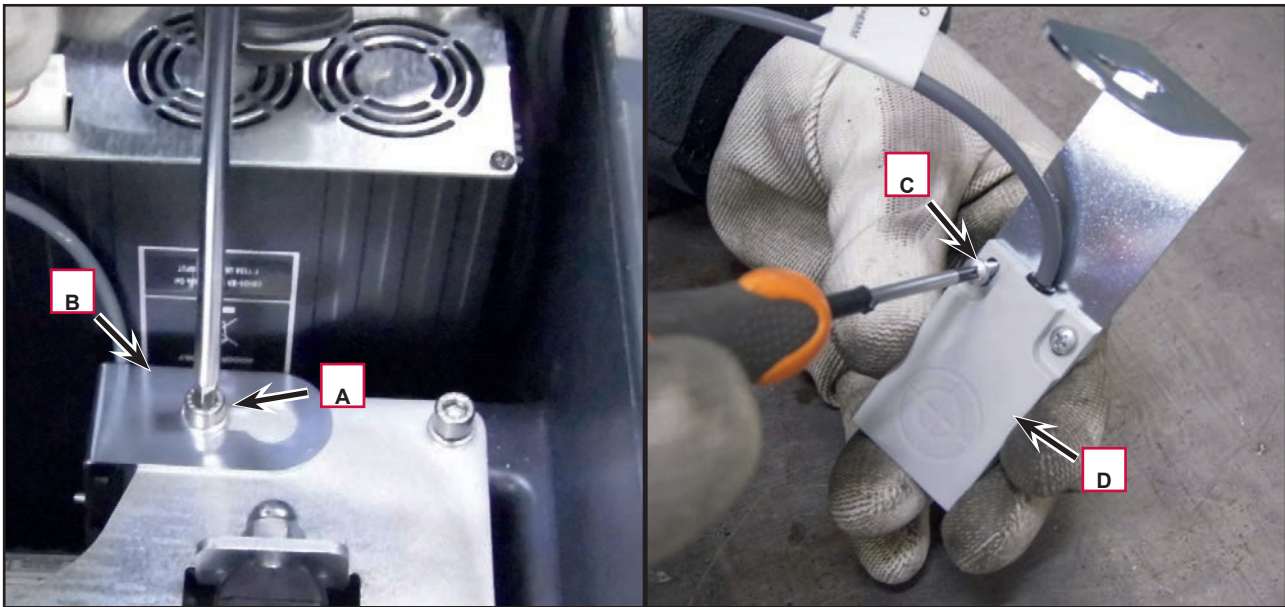

Figure 13
4. Unscrew the screw (A) (Figure 13) and remove the sensor holder (B).
5. Unscrew the two screws (C) and remove the water level sensor (D).